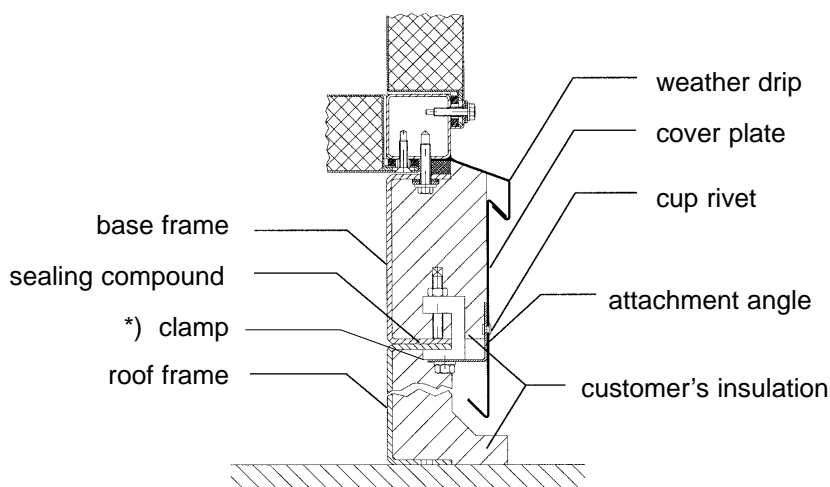

Fig. 9 Customer pre-assembled roof-frame
1. Roof frame pre-assembled by the customer (see Fig. 9)